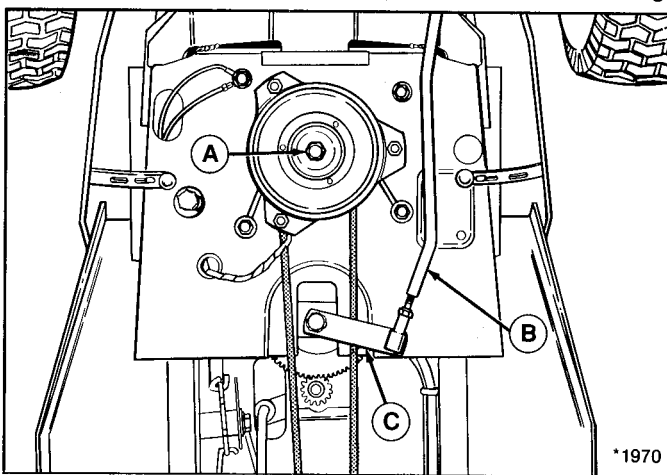

Figure 23.
5. To remove belt from engine pulley, the electric clutch must be removed and the belt slid over the top of the pulley. Remove the capscrew (A, figure 23), washer and lockwasher securing the electric clutch to the engine crankshaft. Slide belt over the top of the engine pulley.